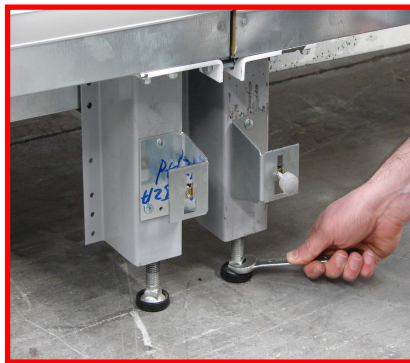
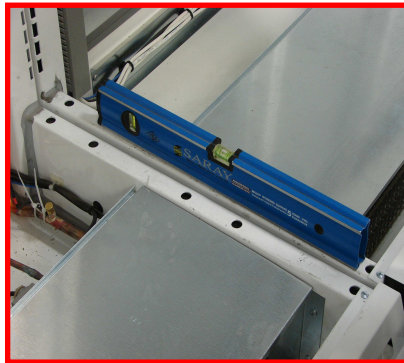

Figure.1
Figure.2
- Adjust the height of the legs of the refrigerators and bring their aisles on the same level (Figure. 1) Check the accuracy using a water gauge (Figure 2).